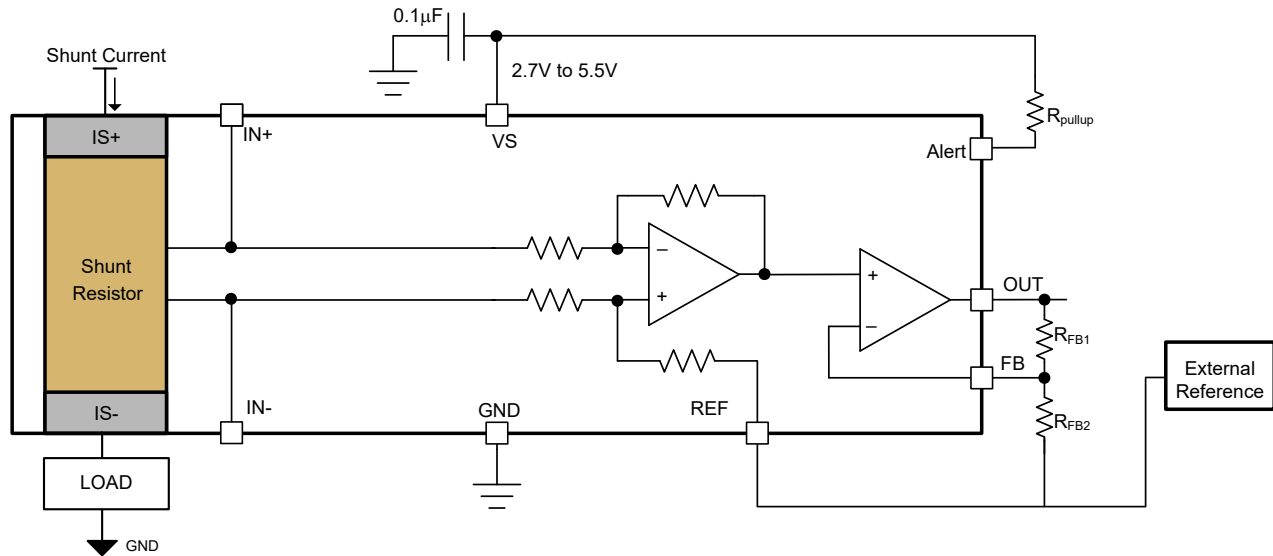

Figure 6-7. Adjustable Gain Setting With External Resistor Divider
The INA751x-Q1 features adjustable gain with two external resistor network. The default gain is 40mV/A, and with added external adjustable gain resistor network, total gain (G) can range up to 800mV/A. Figure 6-7 shows two external resistors  $R_{FB1}$  and  $R_{FB2}$  configured for added external gain. Equation 2 can be used for calculating external adjustable gain and Equation 3 shows the total gain of the system with external adjustable gain. The REF pin and one end of resistor  $R_{FB2}$  is connected to external reference based on needed voltage at OUT pin as described in Adjusting the Output With the Reference Pin.